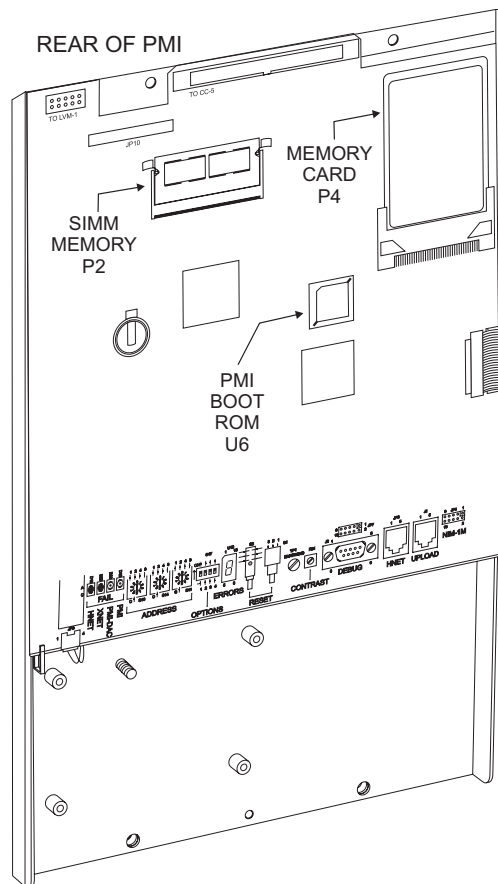

Figure 2
1. Locate the IC to be upgraded on the PMI (U6 - Refer to Figure 2.) The IC has a label attached to the top surface that indicates the IC number and the software revision currently installed. Make certain that the IC number on the module corresponds to the IC number in the upgrade kit.
1. Locate the SIMM memory chip at P2. It is located directly to the right of RN5 and RN6. (Refer to Figure 2.) Note its position and orientation.